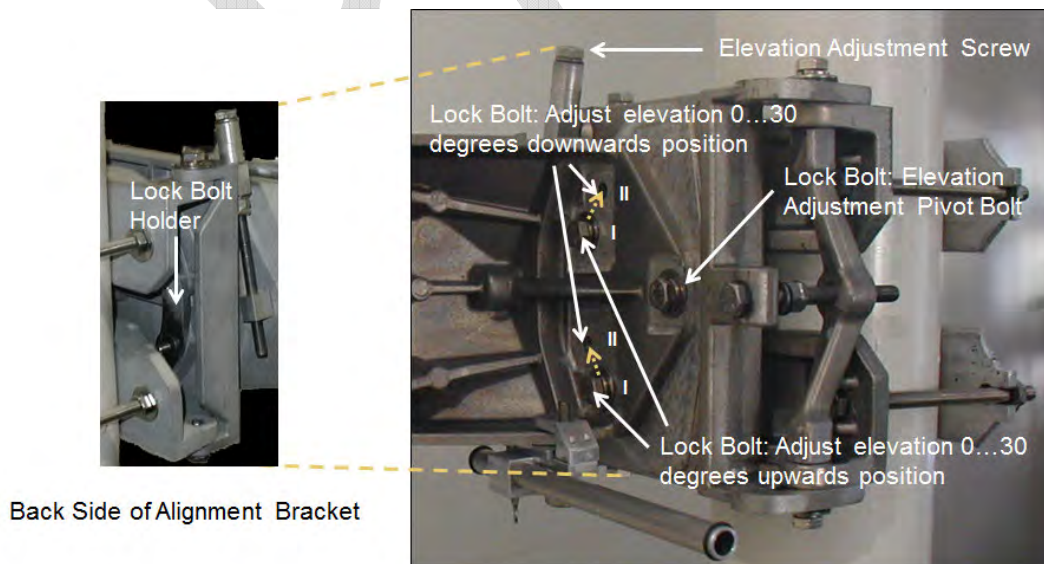
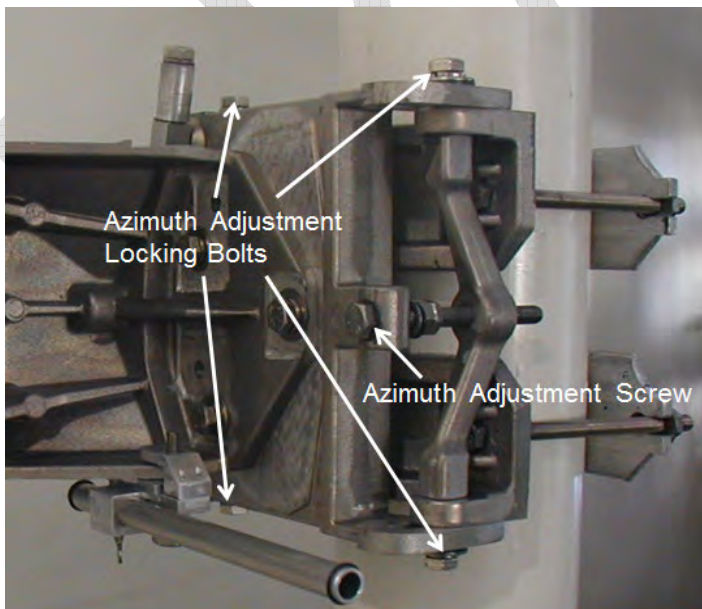

Figure 5-7: Elevation Adjustment
Figure 5-8: Azimuth Adjustment
To adjust the elevation settings of the antenna see Fig. 5-7 and perform the following steps:
3. In case the elevation must be adjusted upwards, ensure that the two Elevation Locking Bolts marked **I/II** in Fig. 5-7 are both in position **I**. If not, keep the Pivot Bolt in place and unscrew these two locking bolts. Support the antenna when removing the last/second bolt to avoid the antenna sliding down. On the back of the alignment bracket is the lock bolt holder (see Fig. 5-7) and it needs to be put in place again before re-inserting the bolts in position **I**. Do not completely tighten the bolts to allow the antenna to move when turning the Elevation Adjustment Screw.
To adjust the azimuth settings of the antenna see Fig. 5-8 and perform the following steps:
- After maximizing the RSSI signal levels on both sides of the link, do not forget tightening the Elevation and Azimuth Locking Bolts (see Fig. 5-7 and Fig. 5-8).